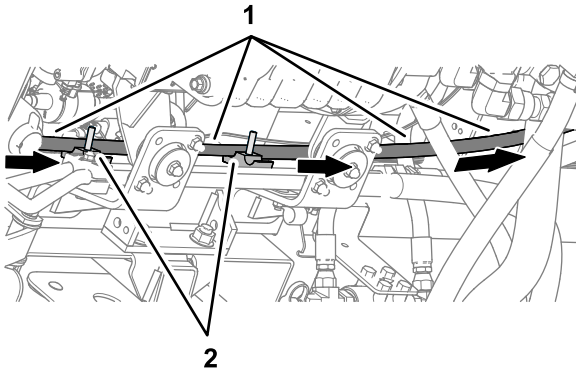

Figure 79
1. Route the hydraulic pump hose 10 x 2921 mm (3/8 x 115 inches—EHI steering valve port PT) with the 45° fitting into the top groove of the tube-clamp half at the upper location (Figure 79).